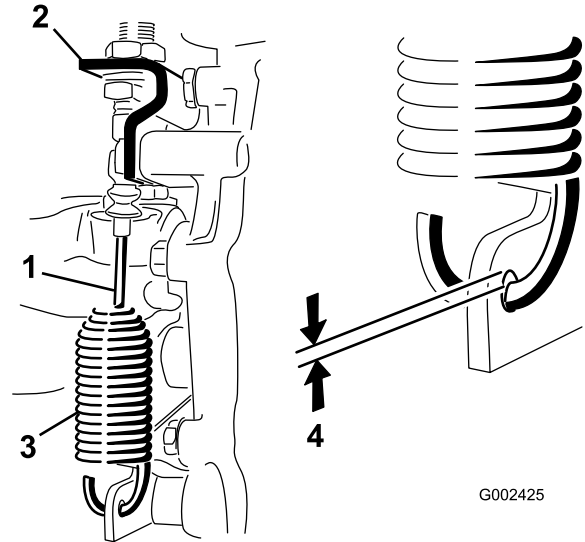

Figure 43
2. Loosen jam nuts securing differential lock cable to bracket on transaxle (Figure 43).